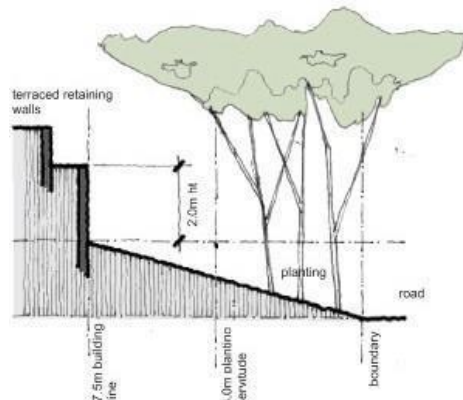

fig 10: Typical diagram illustrating stepped retaining wall & site constraint (site access from bottom of site)
- Terraced retaining walls with planting (see fig.10)